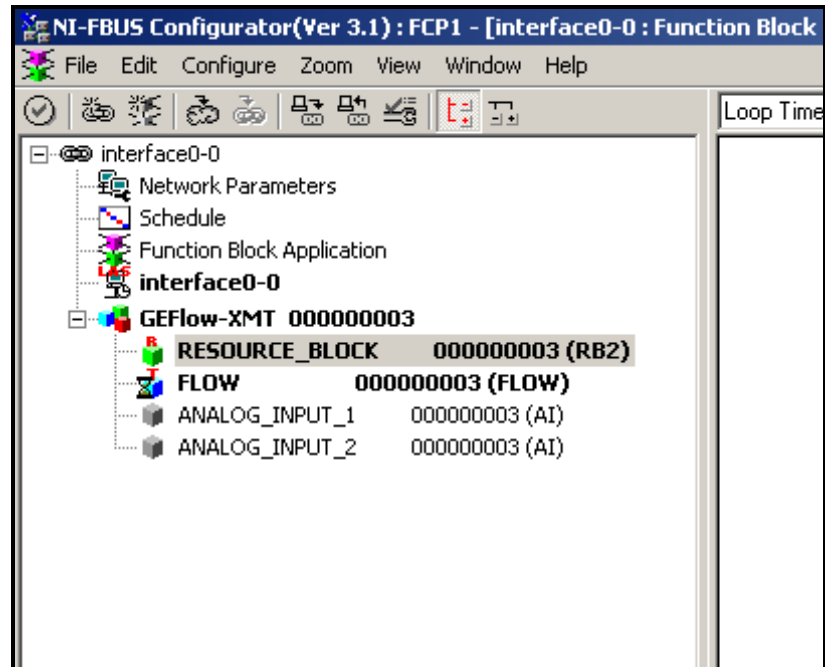

Figure D-1: Configuration Utility Setup Example
Figure D-1 below shows the Configuration Utility with a flowmeter on the network (GE Flow-XMT).
1. Double click on the AI block for which you wish to set the units (ANALOG_INPUT_1 or ANALOG_INPUT_2 in the tree under GEFlow-XMT; see Figure D-1 on page D-2).
1. Double click on the FLOW transducer block (in the tree under GEFlow-XMT; see Figure D-1 on page D-2).